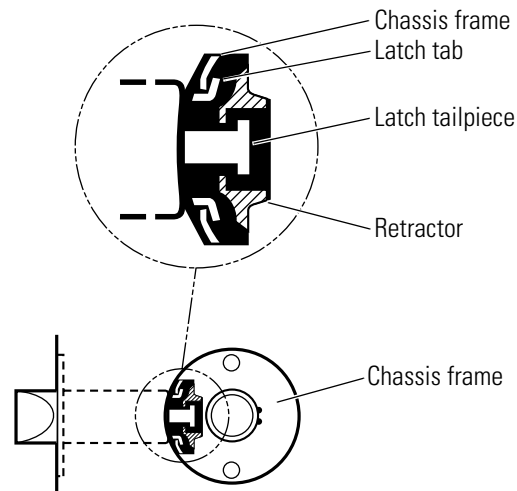

Figure 3.32 Engaging the retractor in the latch
2. Align the chassis with the latch. Make sure that the latch tabs engage the chassis frame and the latch tailpiece engages the retractor, as shown in Figure 3.32.